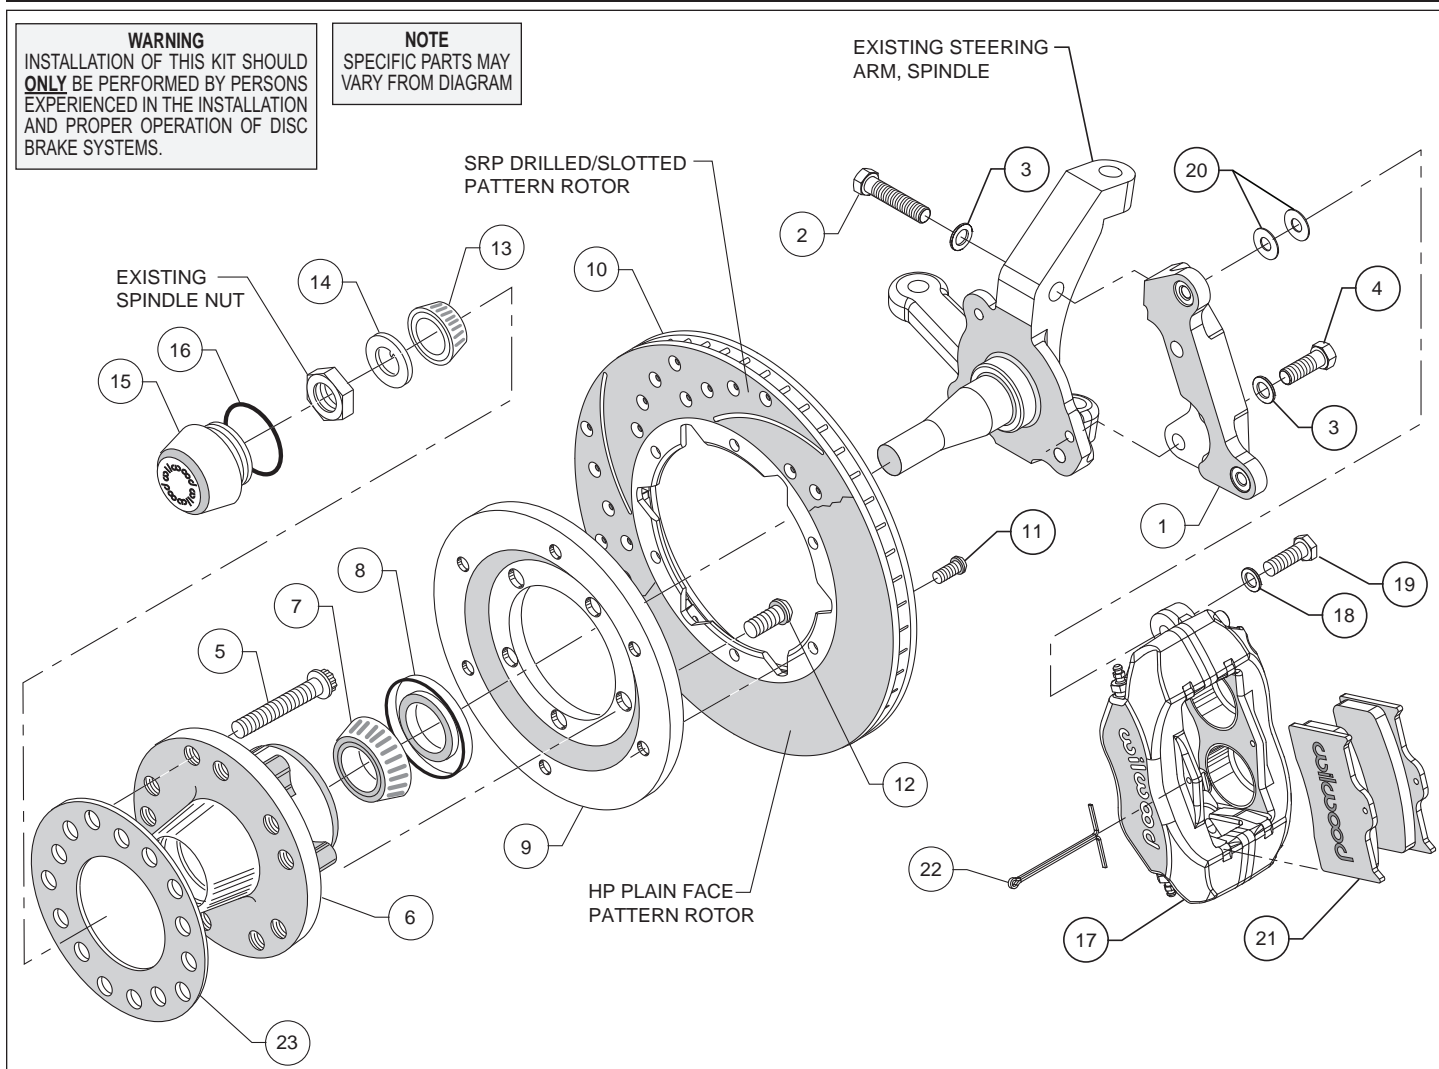
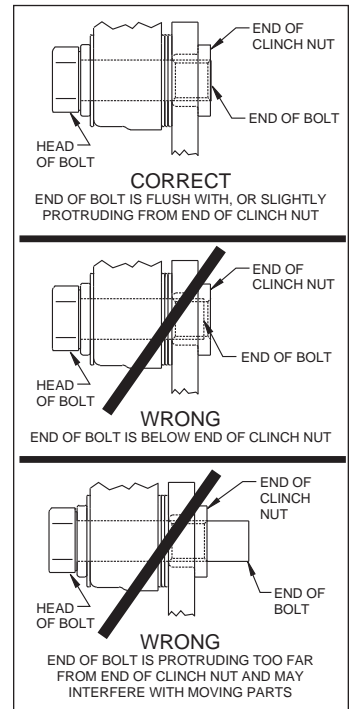

Figure 1. Typical Installation Configuration
Figure 3. Clinch Nut Engagement Diagram
Assembly Instructions (numbers in parenthesis refer to the parts list, on the preceding page and Figure 1): **CAUTION:** All mounting bolts must fully engage clinch nuts. Be sure to check that all bolts are either flush or protruding through flanged side of clinch nut after shimming, Figure 3.
- Align caliper mounting bracket (1) with the corresponding holes on the spindle. Attach using bolts (2 and 4) and washers (3) as shown in Figure 1 and Photo 1. Temporarily tighten the mounting bolts. Ensure that the flanged heads of the clinch nuts in the bracket are facing outboard, Photo 1. **NOTE:** The bracket must fit squarely against the mounting points on the spindle. Inspect for interference from casting irregularities, machining ridges, burrs, etc. Remove bolts one at a time, apply red *Loctite*® 271 to threads and torque to 47 ft-lbs.
- Orient the rotor (10) and the rotor adapter (9) as shown in Figure 1 and Photo 4. Attach the rotor to the adapter using bolts (11). Using an alternating sequence, apply red *Loctite*® 271 to the threads, and torque to 25 ft-lb.
- Mount the adapter/rotor assembly (9/10) to the hub (6) using bolts (12), as shown in Figure 1 and Photo 5. Using an alternating sequence, apply red *Loctite*® 271 to the threads, and torque to 45 ft-lb.
- NOTE:** Please reference the caution statement at the beginning of the assembly instructions. Mount the caliper (17) onto the caliper mounting bracket (1) using bolts (19) and washers (18), as shown in Figure 1. Initially place two .035" thick shims (20) on each bolt between the caliper and the bracket, Photo 8. Temporarily tighten the mounting bolts and view the rotor (10) through the top opening of the caliper. The rotor should be centered in the caliper, Photo 9. If not, adjust by adding or subtracting shims between the bracket and the caliper. Always use the same amount of shims on each of the two mounting bolts. **NOTE:** The end of each bolt must be flush with or slightly protruding from the head of the clinch nut, as shown in Figure 3. If necessary place spare shims between washer (18) and caliper mounting ear to achieve the proper clinch nut engagement. Once the caliper alignment and clinch nut engagement are correct, remove the bolts one at a time, apply red *Loctite*® 271 to bolt threads, and torque to 40 ft-lb.